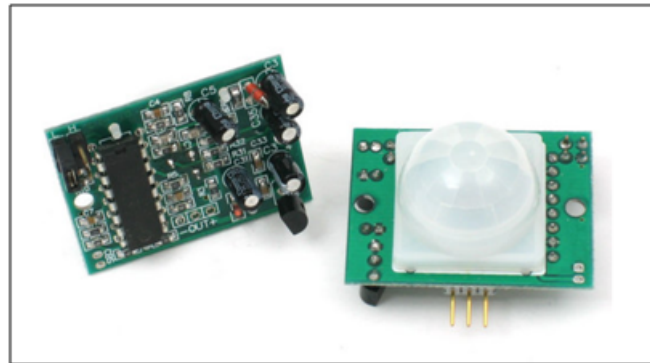

Figure 1: PIR Sensor Bottom view (left) and Top View (Right)
Passive Infrared Sensors (as shown in figure 1) also known as PIR Motion Detector Sensor, is an electronic sensor that measures Infrared (IR) light radiating from objects in its field of view. PIR sensors allow you to sense motion, almost always used to detect whether a human has moved in or out of the sensors range. They are small, inexpensive, low-power, easy to use and don't wear out. For that reason they are commonly found in appliances and gadgets used in homes or businesses. They are often referred to as PIR, "Passive Infrared", "Pyroelectric", or "IR motion" sensors.